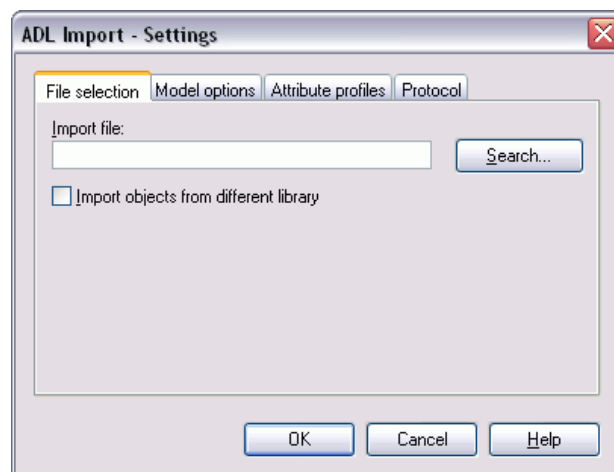

Figure 380: ADL-Import
**Hint:** During the import, if the ADL file contains a model of a type which is not defined in the current application library and the option "Import models from different library" is activated in the window "ADL Import - Settings" (see fig. 380), it is possible to assign a model type (see chap. 6.1.2.1, p. 453) defined in the application library to this model.